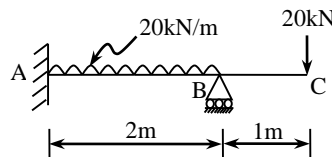

Fig.1
- Q.5** (a) Using Castigliano's theorem, calculate the propped reaction for the beam as shown in Fig.1. Take EI as constant. **07**